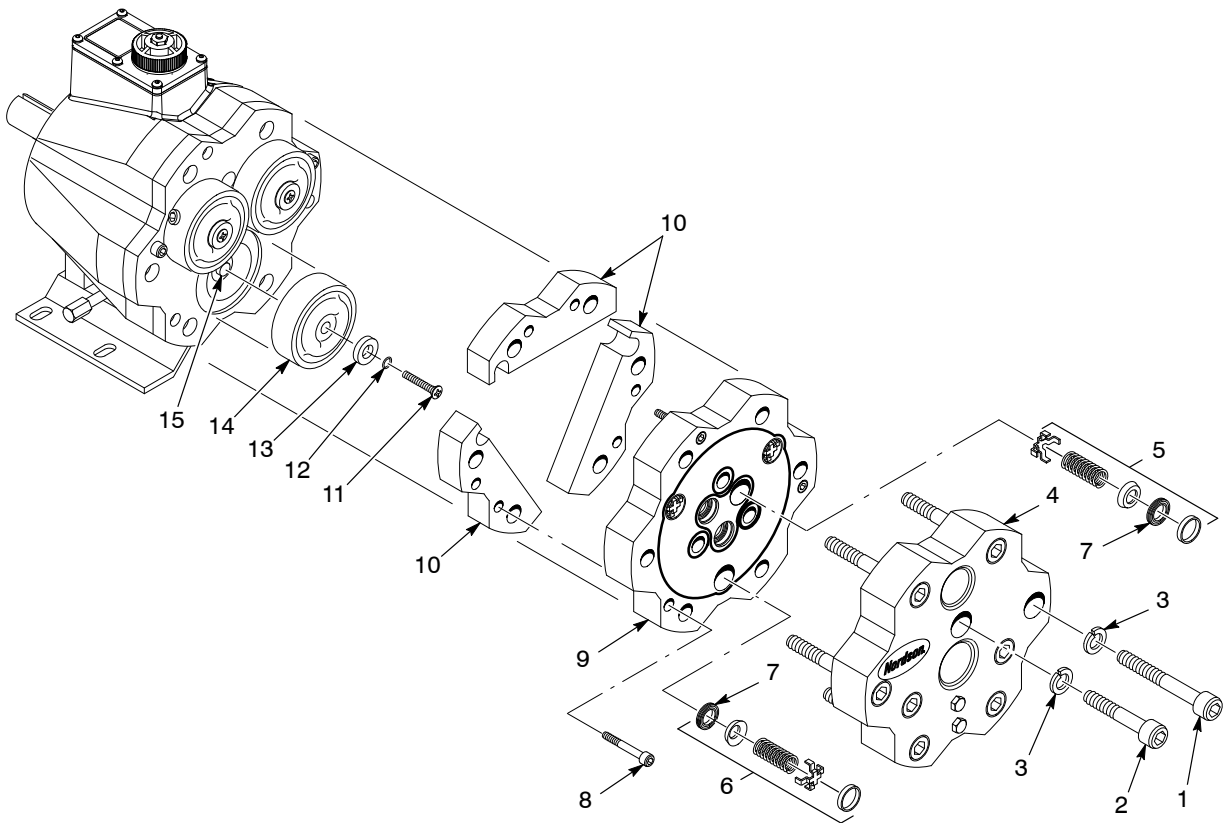

Figure 4 Disassembling the Fluid Section
1. See Figure 4. Remove the screws (1, 2) and lock washers (3) securing the end plate (4) to the pump housing.
2. Remove the screws (8) securing the valve plate (9) to the pump housing.
3. Use a valve/seat removal tool to remove the inlet and outlet valve assemblies (5, 6) and valve seats (7) from the valve plate. Inspect the valves and seats for wear or obstruction. Replace or clean them as necessary.
4. Remove the diaphragm plates (10).
5. See Figure 4. Remove each diaphragm cartridge using the following steps: